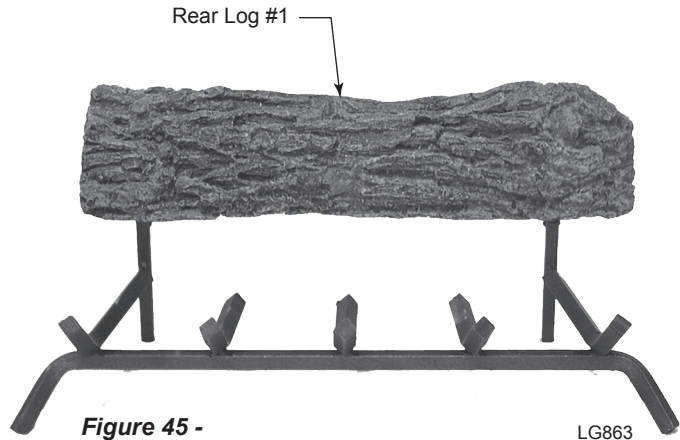

Figure 45 - Place Back Log on Grate
1. Place Back Log #2 on grate bars on back of grate. *Figure 45*